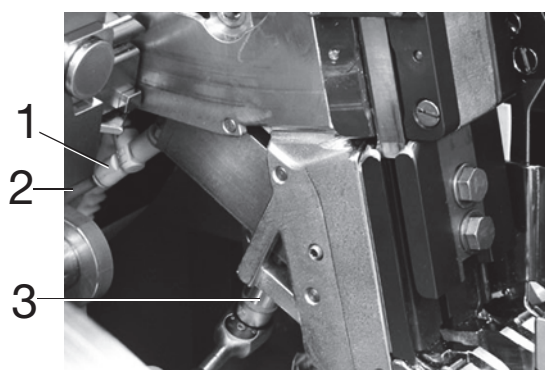

Fig. 7-28 1 Quick vent valve
- Remove the pneumatic hose (2, Fig. 7-28) on the quick vent valve (1, Fig. 7-28).
- Loosen the fixing screw (3, Fig. 7-28).